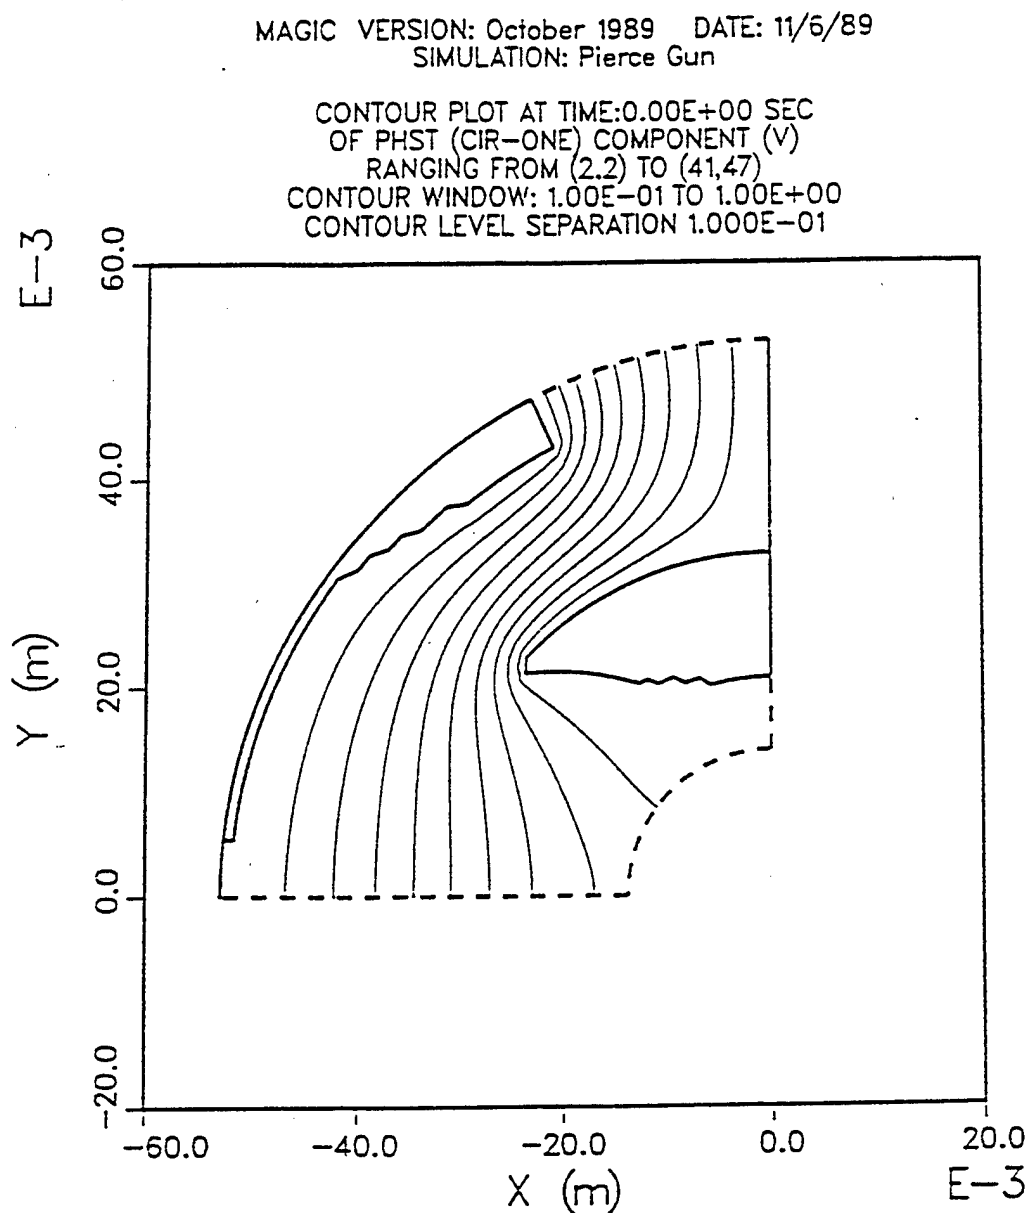

Figure 19-2. Potential contours for Pierce gun.
1. The following command instructs the code to obtain a Poisson solution labeled Pierce for two conductors, cathode and anode, which are set at 0 and 1 volts, respectively. The field is initialized with a gradient in the x1 coordinate. The remaining arguments use default values. Figure 19-2 displays the equipotential contours.